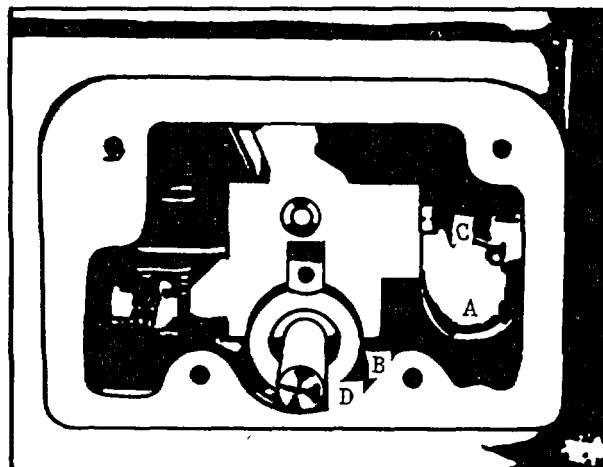

Fig. 22
2. Move the flat spring (A) Fig. 22, up or down until there is equal clearance between the dog plate (B) and the cam (D). The spring is moved up or down by loosening screws (C) which holds one end of the spring against the headstock body casting.